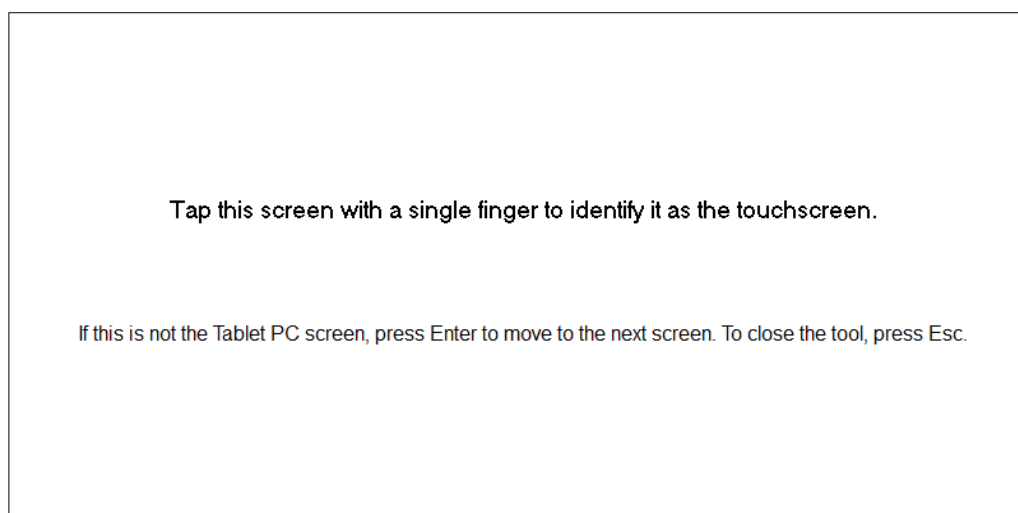

Figure 25: Choosing the appropriate screen to be paired with the touchscreen interface.
- 5 Assign a screen to a touchscreen interface (see Fig. 25).